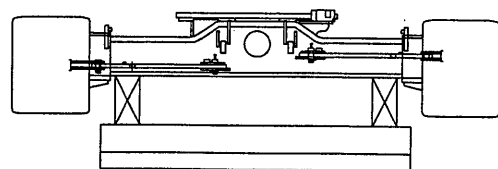

Fig. 11-15
- (8) Remove the jacks. (Fig. 11-15)